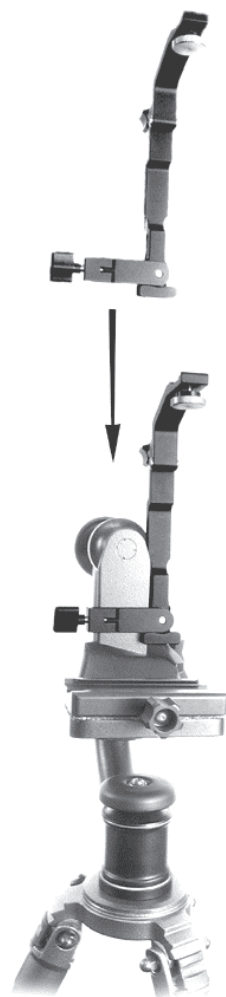

Figure 2
The F-4 is a telephoto bracket for use with older Wimberley Head models WH-100 and WH-101 (Fig. 2). The bracket attaches to the old-style Wimberley Head (Version I) swing arm, allowing you to use an off-camera flash unit. **NOTE:** It does not fit the Version II Wimberley Head. **This bracket requires the use of an off-camera shoe cord or wireless adapter recommended by the camera manufacturer (not available through Wimberley).**
4. Slide the bracket down the swing arm from the top, making sure that the bracket jaws are completely parallel with the lip on the swing arm (Fig. 2).